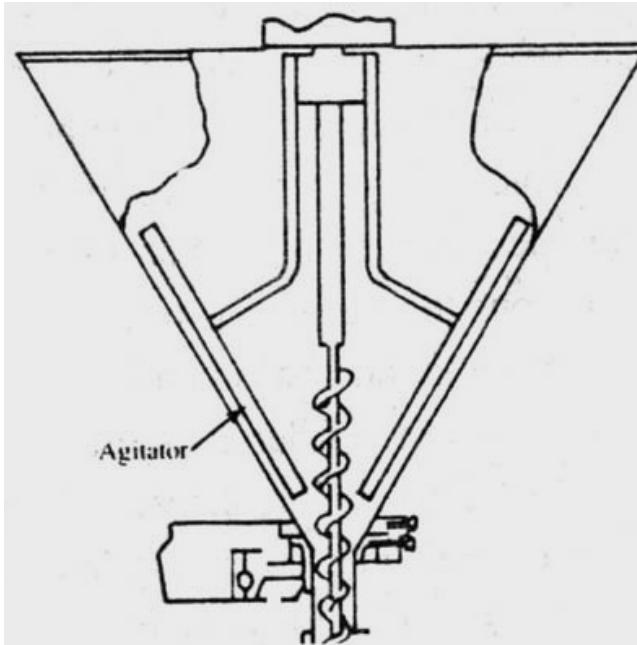

**Figure 20.23 Auger filler**
- Use a rotating auger in a funnel shaped hopper to deliver a specific amount of product at a constant rate(Figure 20.23).